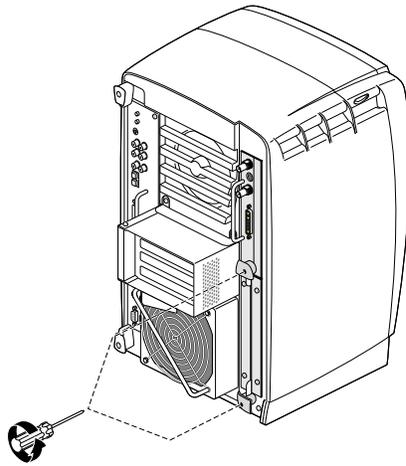

Figure 5-7 Removing the XIO Tri-Module Screws
1. Loosen the two captive screws in the XIO Tri-Module sliding handles with the supplied Phillips screwdriver, as shown in Figure 5-7, until the screws are disconnected from the chassis.